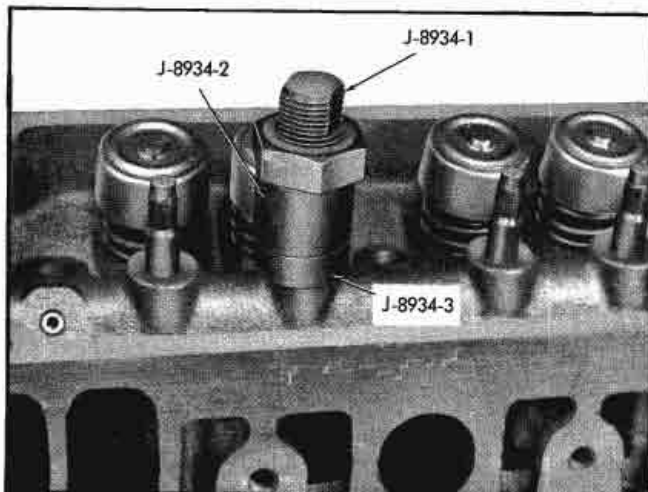

Fig. 6-31 Tool J-8934 Positioned to Remove Rocker Arm Stud
6. Thread $\frac{7}{8}$ " standard nut on stud remover and turn nut until rocker arm stud is out of cylinder head (Fig. 6-31).